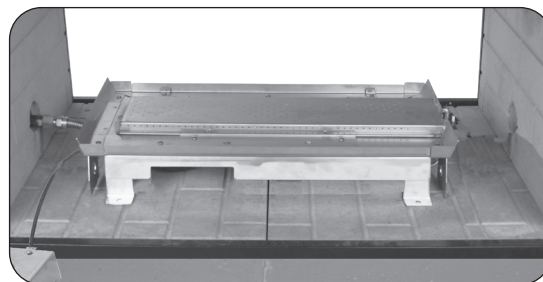

Fig. 14-2 Center burner in fireplace
3. Place the burner system in the fireplace. Center the burner from left to right in the fireplace. (Reference Fig. 14-2 for orientation.)